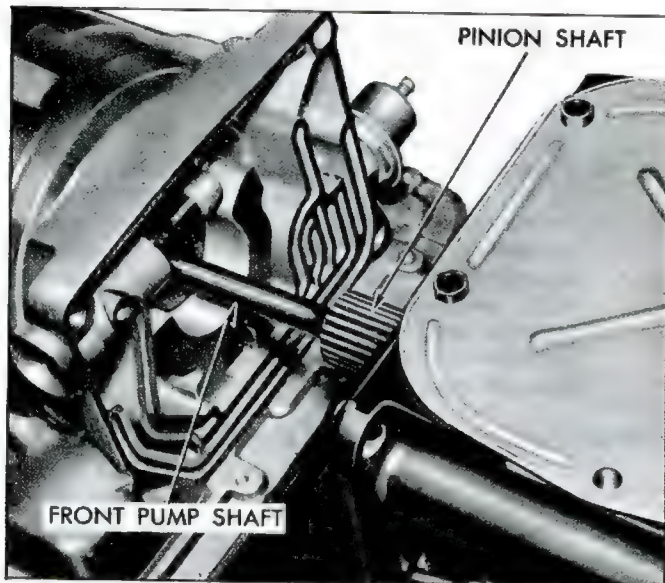

Fig. 11—Engaging Pinion Shaft-to-Transmission Planet Carrier Splines
3. Align the carrier and transmission on a flat surface and carefully guide the pump shaft through the differential carrier so as not to damage the bushing in the pinion. Then engage the splines of the pinion shaft with the planet carrier internal splines in the transmission (fig. 11).